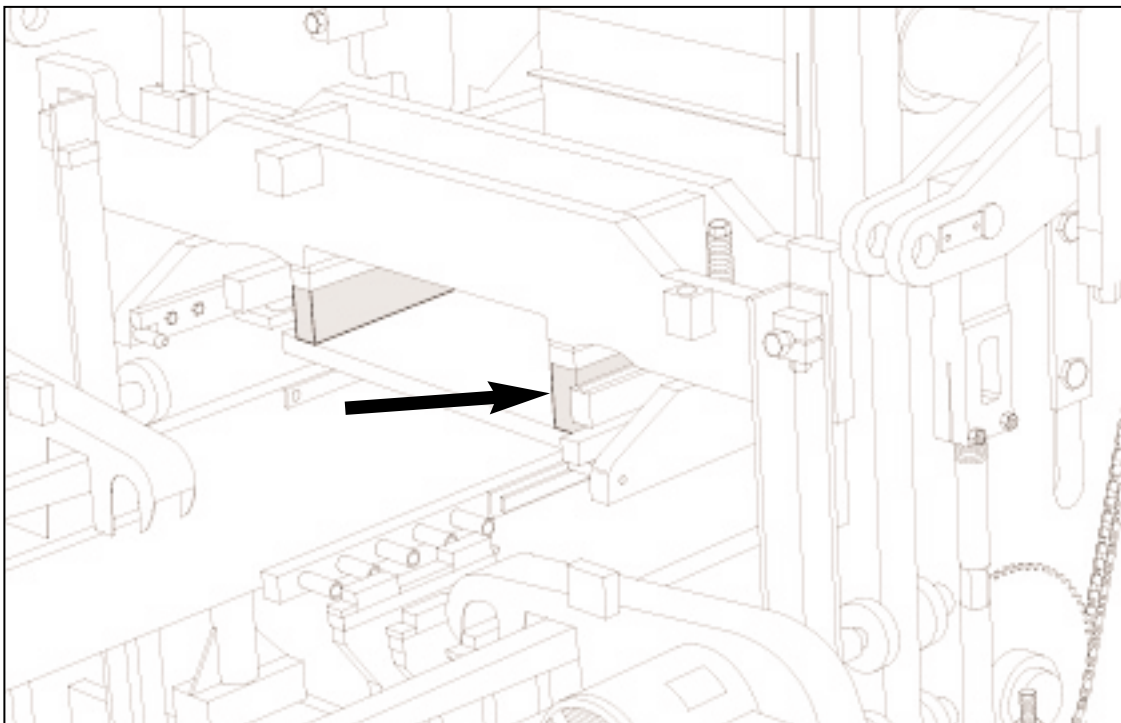

Figure 4.32 2 1/8" [54mm] BLOCKING UNDER STRIPPER HEAD FRAME.
4.2.9 The DYNAPAC is now ready for the installation of the mold assembly. Follow the directions for installing an attachment in section 5 of this manual. When installing the stripper head, insert **2 1/8" [54mm]** of blocking in addition to the **1 1/2" [38 mm]** blocks already affixed to the stripper head frame (figure 4.32). The above blocking assumes a stripper head height of **14 3/16" [360mm]** from the top of the head plate to the bottom of the shoes.